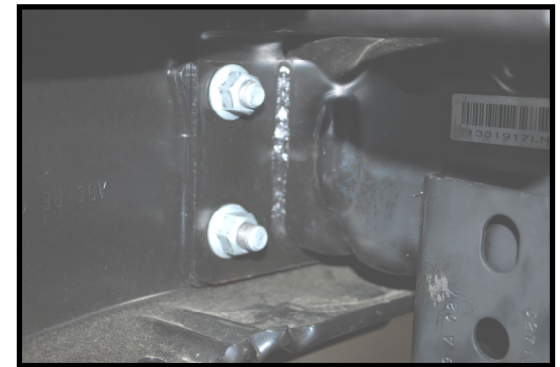

Figure 1
Step 3 – Remove Stock bumper by unbolting the eight (8) 18mm nuts From backside of bumper. Nuts are located on the inside and outside of frame rails (See Figure 1 - Outside frame rails shown) Say goodbye to that flimsy plastic stock bumper.